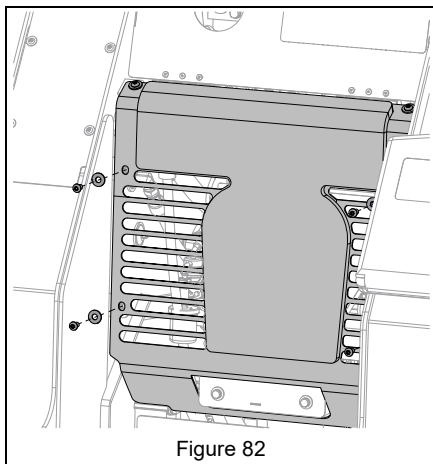

Figure 82
5. Reinstall operator guard using hardware loosened and removed earlier. See Figure 82.